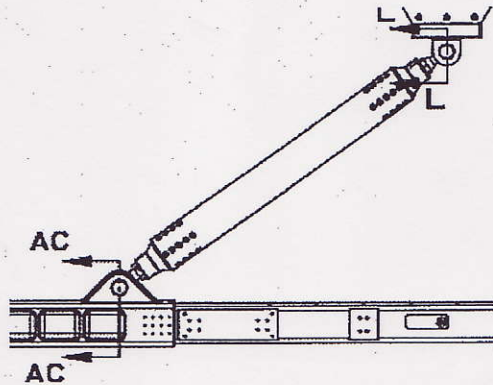
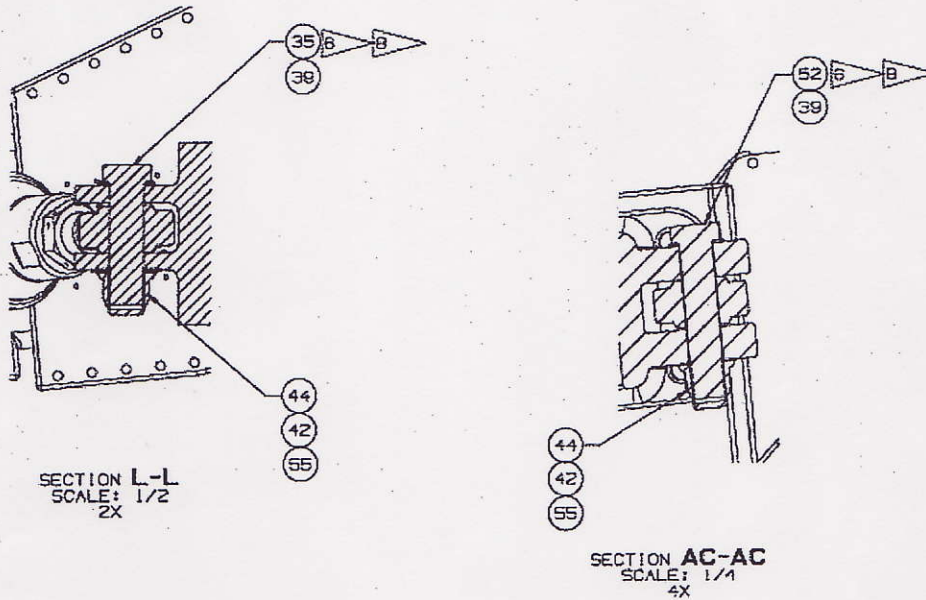

Figure 1-1
Figure 1-2
3. Remove the two (2) Diagonal Strut Assemblies SEG39135741-301. As per figure 1-1, remove cotter pins (55), nuts (42) and washers (44) from both ends of each diagonal strut as shown in Figure 1-2. Bag and retain these parts for